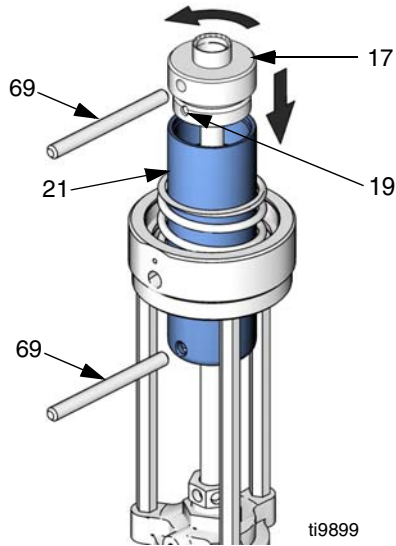

FIG. 13
- Place pin tool (69) in piston hole to prevent piston from turning. Use second pin tool (69) to unscrew piston cap (17) and separate from piston (21) to expose dowel pin (19). See FIG. 13.